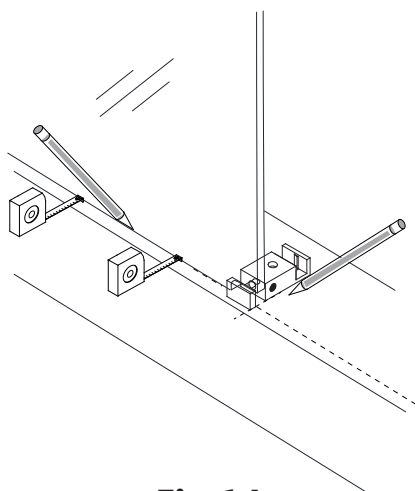

Fig 14a
14. Make sure the **Stationary Glass (#02)** is parallel to the front edge of the threshold. Level it vertically (plumb) and mark the position on the threshold. Slide the **Guide Block (#12)** into the notch in the **Stationary Glass (#02)**, and align flush with the edge. Mark its position and also mark the hole for drilling using a pencil (or center punch). **(Fig 14a)**